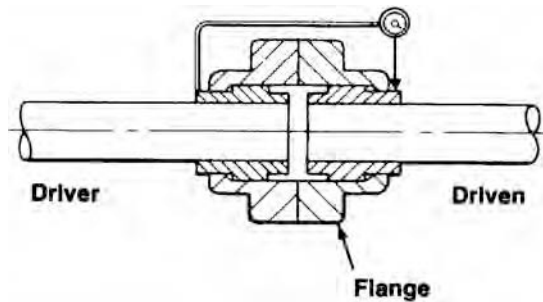

Figure 2. Check of Vertical Alignment
3. Mount dial indicator as in Figure 2.